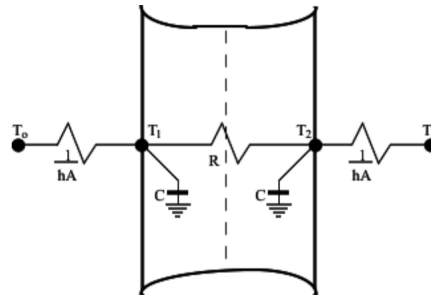

Figure 2.1: 3R2C lumped parameter configuration for a wall.
- Remember that in the popular **3R2C** parameter configuration as shown in Figure 2.1, each of the thermal capacitance coefficients C are considered equivalent. In which case: